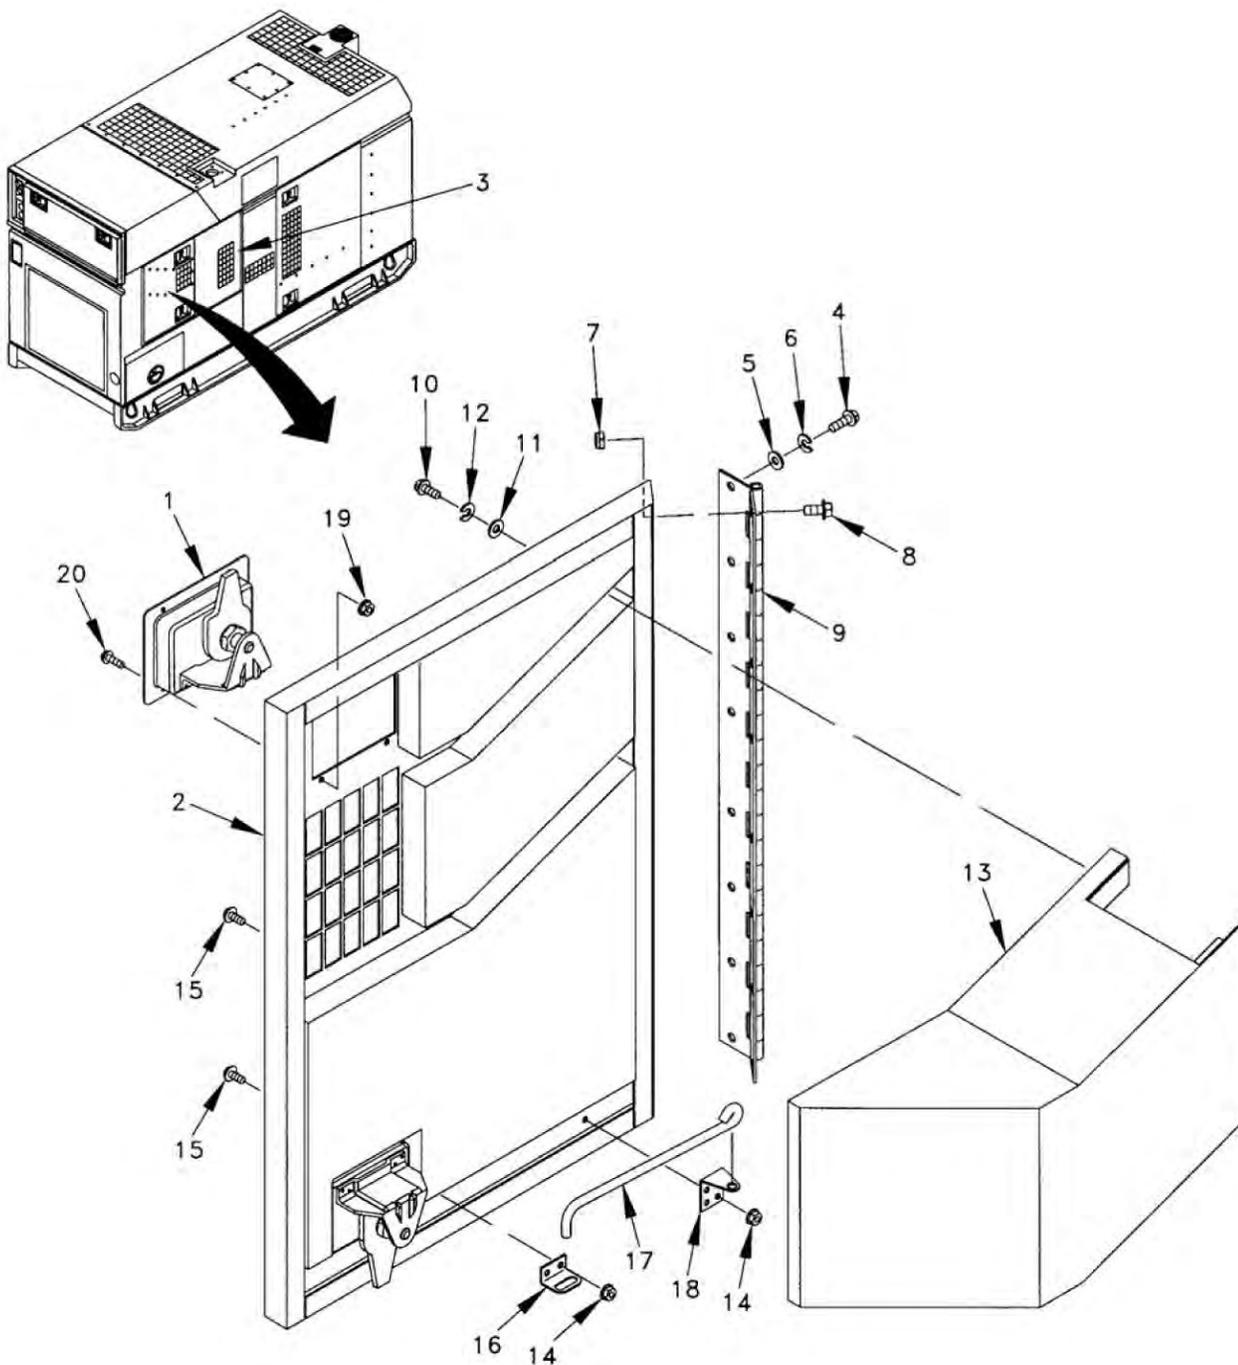

Figure 1. Right Rear Door Assembly (Latch).
1. Turn two latches (Figure 1, Item 1) and open right rear door assembly (latch) (Figure 1, Item 2) and right rear door assembly (Figure 1, Item 3).
2. Remove eight screws (Figure 1, Item 4), washers (Figure 1, Item 5), lock washers (Figure 1, Item 6), and right rear door assembly (latch) and hinge (Figure 1, Item 2).
1. Remove eight locknuts (Figure 1, Item 7), screws (Figure 1, Item 8), and hinge (Figure 1, Item 9).
2. Remove nine screws (Figure 1, Item 10), washers (Figure 1, Item 11), lock washers (Figure 1, Item 12), and duct (Figure 1, Item 13).
3. Remove four nuts (Figure 1, Item 14), screws (Figure 1, Item 15), door holding bracket (Figure 1, Item 16), door holding rod (Figure 1, Item 17), and holding rod bracket (Figure 1, Item 18).
4. Remove eight nuts (Figure 1, Item 19), screws (Figure 1, Item 20), and two latches (Figure 1, Item 1).
3. Install two latches (Figure 1, Item 1), and secure with eight screws (Figure 1, Item 20) and nuts (Figure 1, Item 19).
4. Install holding rod bracket (Figure 1, Item 18), door holding rod (Figure 1, Item 17), and door holding bracket (Figure 1, Item 16), and secure with four screws (Figure 1, Item 15) and nuts (Figure 1, Item 14).
5. Install duct (Figure 1, Item 13) and secure with nine lock washers (Figure 1, Item 12), washers (Figure 1, Item 11), and screws (Figure 1, Item 10).
6. Install hinge (Figure 1, Item 9) and secure with eight screws (Figure 1, Item 8) and nuts (Figure 1, Item 7).